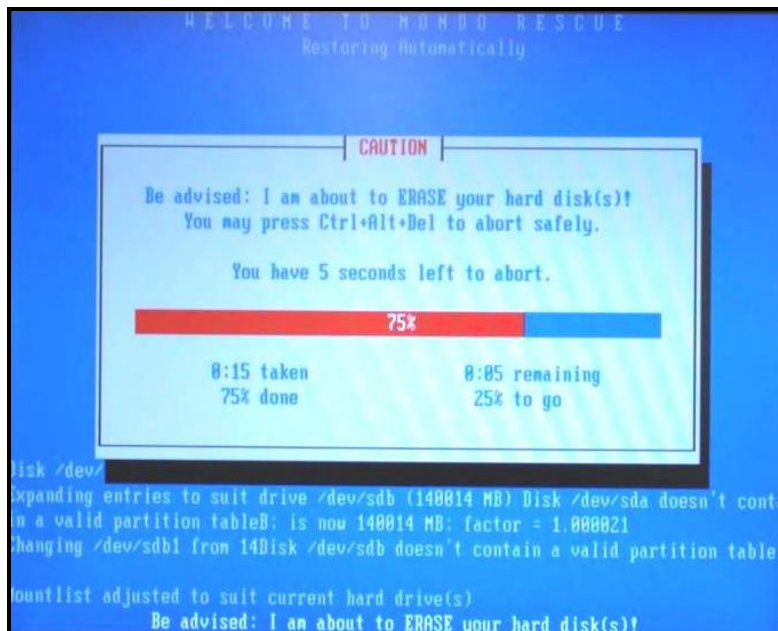

Figure 3: Caution window
4. Select **DVD disks**. The install process starts. Several **CAUTION** windows appear indicating install progress. Figure 3 displays an example.